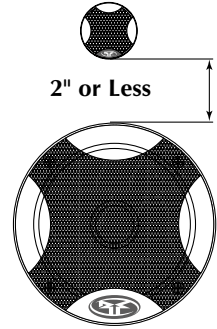

Figure 1
- For the best integration between the midrange and tweeter, the tweeter should be placed less than 2" from the midrange (Figure 1).
- Whenever possible, place the tweeter directly above or below the midrange as this maximizes the imaging (point source) capability of the speakers (Figure 1).